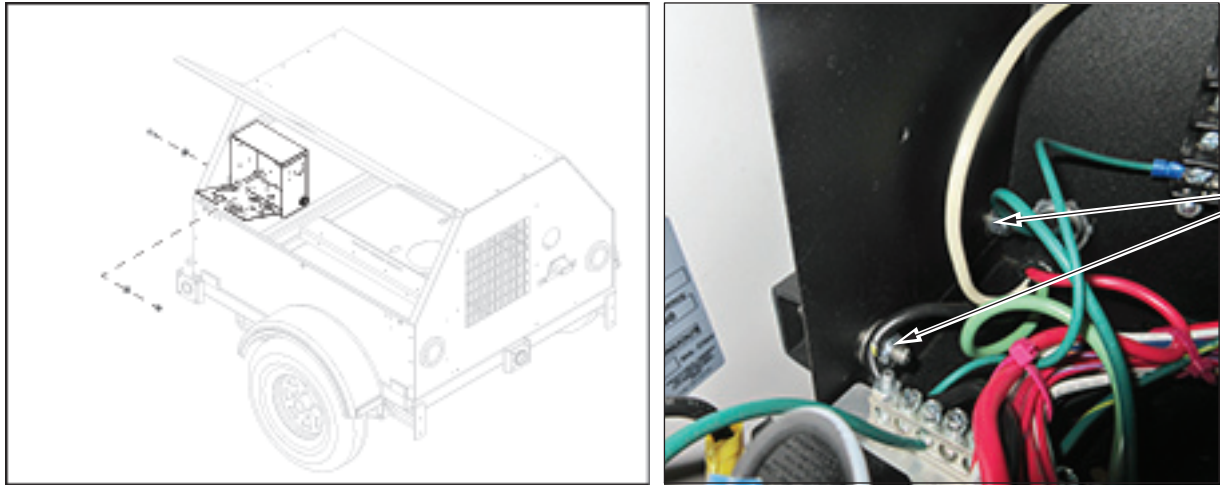

Figure 17 - Control Box to Unit: Four Hardware Locations
10. See Figure 17. Remove hardware securing control box to unit. Retain hardware and control box.
5. See Figure 17. Install control box in unit with hardware retained in step 10 of Remove Old Control Box.